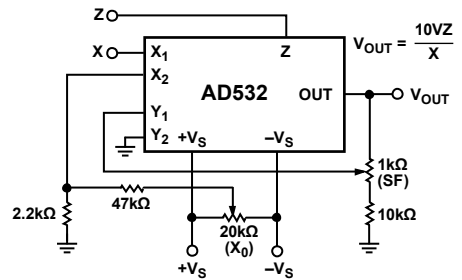

Figure 16. Divider Connection
Accuracy in the divide mode is only a little more complex. To achieve division, the multiplier cell must be connected in the feedback of the output op amp as shown in Figure 16. In this configuration, the multiplier cell varies the closed-loop gain of the op amp in an inverse relationship to the denominator voltage. Therefore, as the denominator is reduced, output offset, bandwidth, and other multiplier cell errors are adversely affected. The divide error and drift are then  $\epsilon_m \times 10 \text{ V}/(X_1 - X_2)$ , where  $\epsilon_m$  represents multiplier full-scale error and drift and  $(X_1 - X_2)$  is the absolute value of the denominator.
The AD532 can be configured as a two-quadrant divider by connecting the multiplier cell in the feedback loop of the op amp and using the Z terminal as a signal input, as shown in Figure 16. It should be noted, however, that the output error is given approximately by  $10 V \epsilon_m / (X_1 - X_2)$ , where  $\epsilon_m$  is the total error specification for the multiply mode and bandwidth by  $f_m \times (X_1 - X_2) / 10 V$ , where  $f_m$  is the bandwidth of the multiplier. Further, to avoid positive feedback, the X input is restricted to negative values. Thus, for single-ended negative inputs (0 V to -10 V), connect the input to X and the offset null to X2; for single-ended positive inputs (0 V to +10 V), connect the input to X2 and the offset null to X1. For optimum performance, gain (SF) and offset (X0) adjustments are recommended as shown and explained in Table 5.